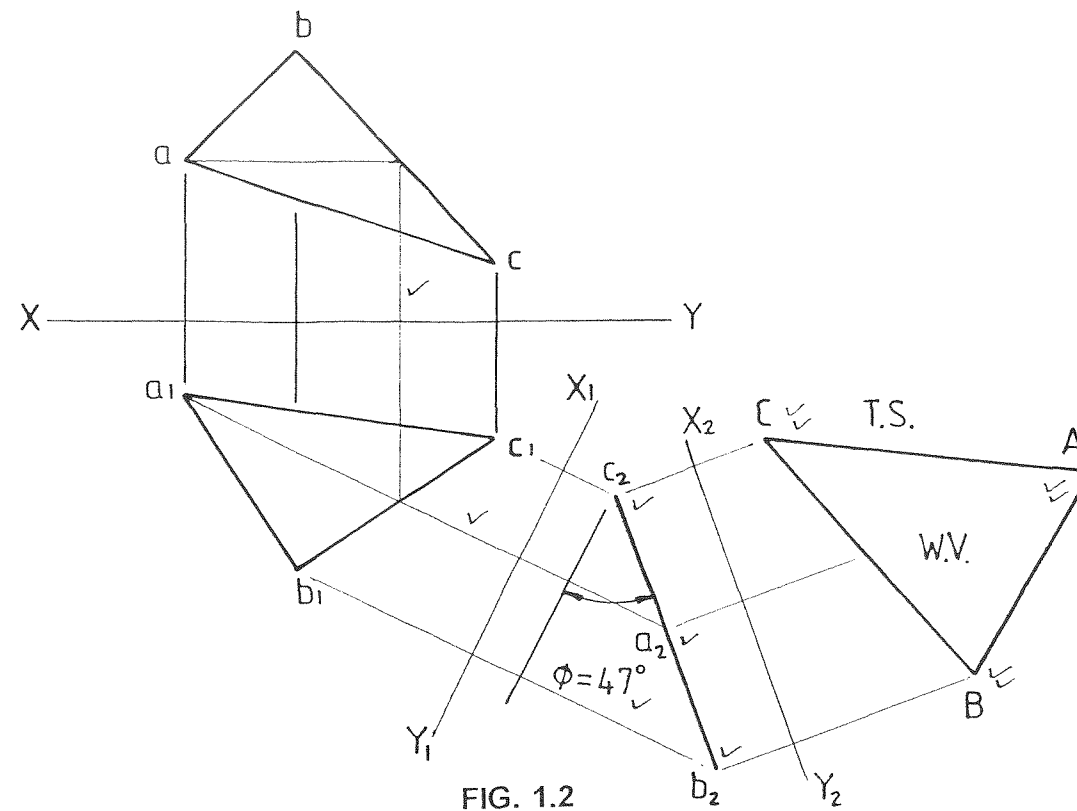

FIG. 1.2
1.2	In FIG 1.2 find the
1.2	In FIG 1.2 bepaal die